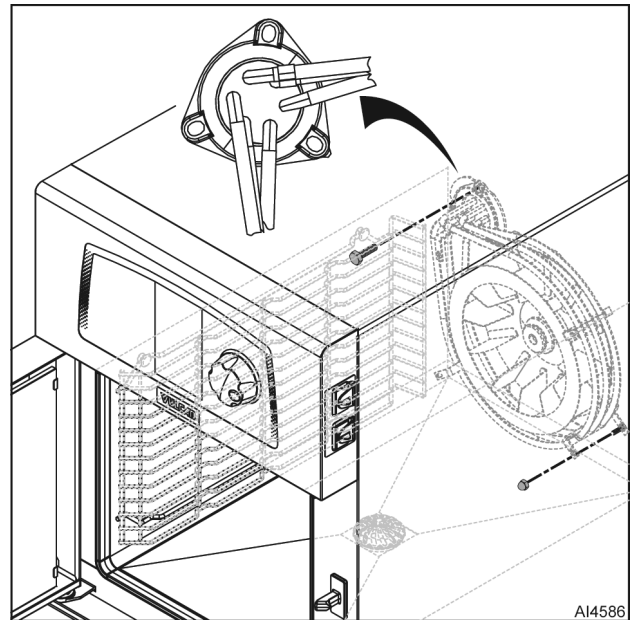

Fig. 28
6. Remove nut (Fig. 28) that secures heating element spacer to oven cavity.